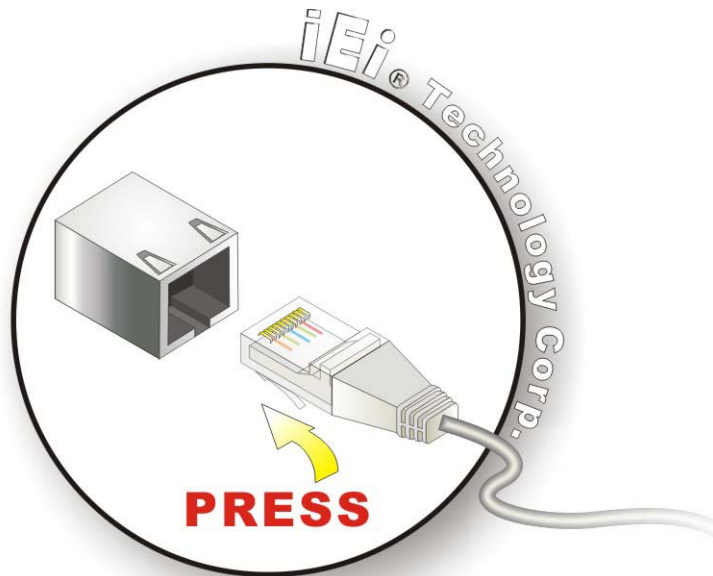

Figure 3-10: LAN Connection
- Step 2:** **Align the connectors.** Align the RJ-45 connector on the LAN cable with one of the RJ-45 connectors on the TANK-101B/BW. See **Figure 3-10**.